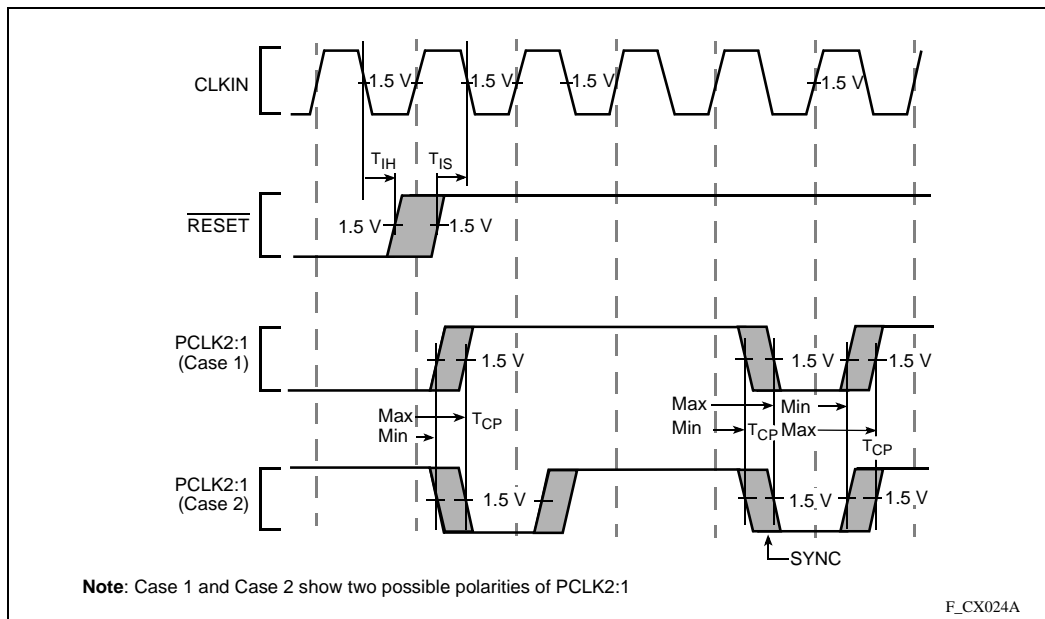

Figure 23. Clock Synchronization in the 2-x Clock Mode
13. In 2-x clock mode, RESET is an asynchronous input which has no required setup and hold time for proper operation. However, to guarantee the device exits reset synchronized to a particular clock edge, the RESET pin must meet setup and hold times to the falling edge of the CLKIN. (See Figure 23.)